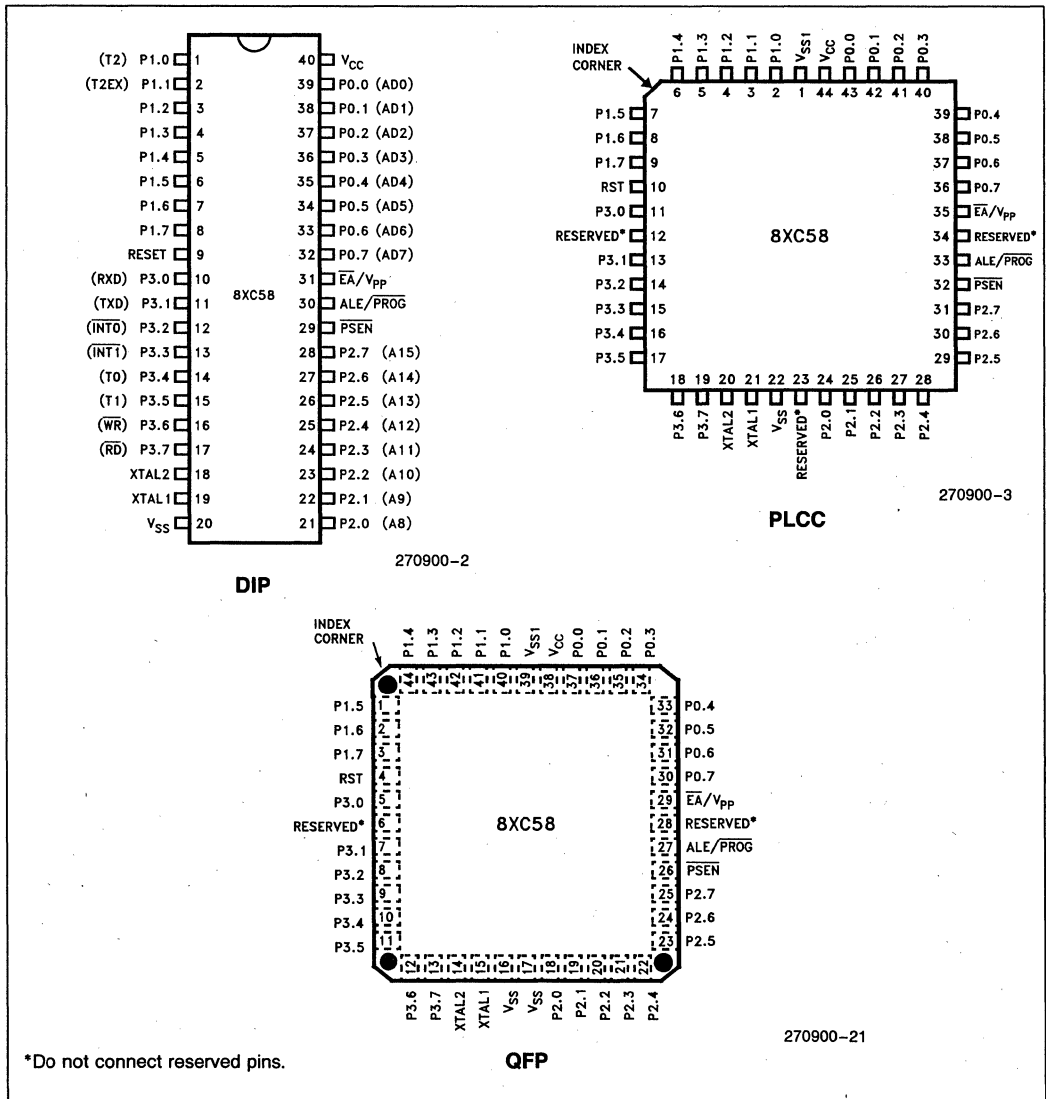

Figure 2. Pin Connections
1. "NC" pin labels changed to "Reserved" in Figure 2.